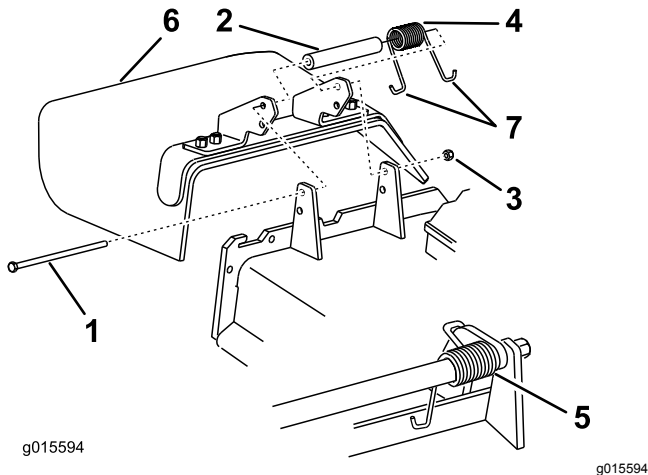

Figure 100
1. Remove the locknut, bolt, spring, and spacer holding the deflector to the pivot brackets (Figure 100). Remove the damaged or worn grass deflector.
**Note:** Make sure one J end of the spring is installed behind the deck edge before installing the bolt as shown in Figure 100.
3. Install the bolt and the nut. Place one J hook end of the spring around the grass deflector (Figure 100).